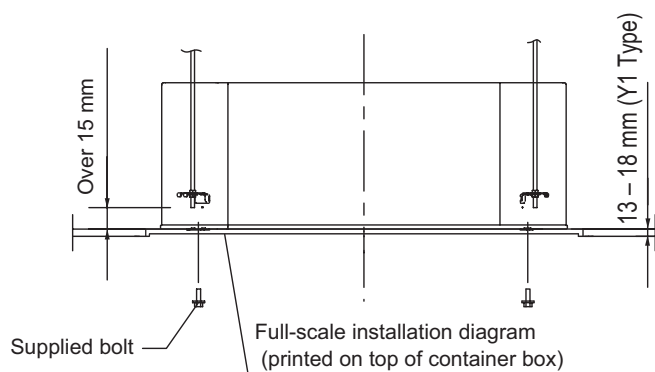

Fig. 2-56
- (1) When placing the unit inside the ceiling, determine the pitch of the suspension bolts using the supplied full-scale installation diagram. (Fig. 2-56)
- (2) The length of suspension bolts must be appropriate for a distance between the bottom of the bolt and the bottom of the unit of more than 15 mm. (Fig. 2-56)